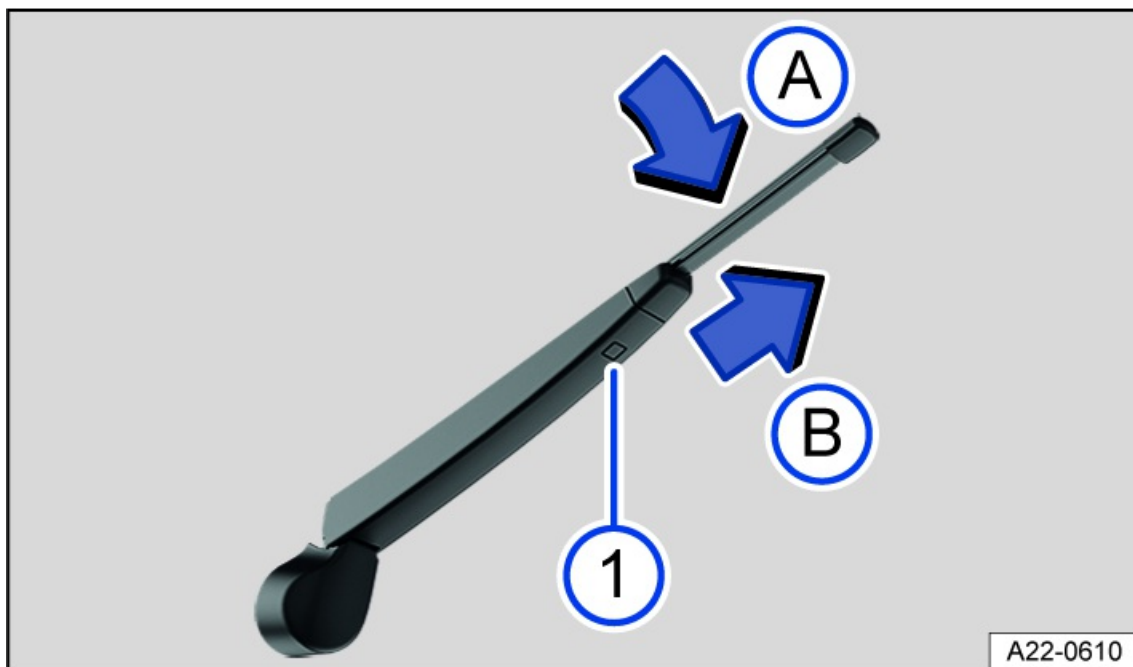

Fig. 189 Changing the rear window wiper blade.
① Wiper blade release button.
3. Press and hold the release button *fig. 189* ①.
4. Tilt the wiper blade toward the wiper arm *fig. 189* A while removing it in the direction of the arrow B. You may need to use more force to do this.
5. Slide a new wiper blade with the same length and design onto the wiper arm in the opposite direction to the arrow until it engages *fig. 189* B. For this to work, the wiper blade has to be folded out *fig. 189* A.